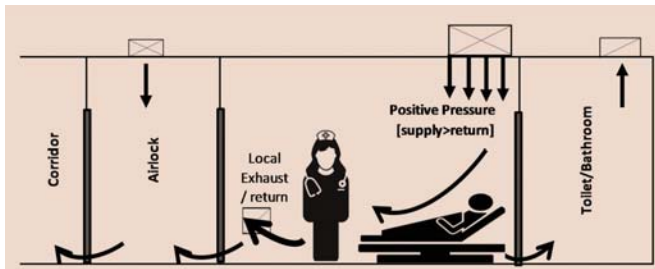

Figure 9: Air pattern for a positive pressure PE. Room
- In a Protective Environment Isolation (P.E.) room, the people in the outside corridor and the healthcare workers should not infect the patient, who is immuno-compromised or immuno-suppressed. The room is thus kept under positive pressure. The healthcare worker's respiration when attending to the patient should be directly exhausted. The air pattern shown in Figure 9 tries to achieve this. The clean air from the supply air duct comes first on the patient and thence to healthcare worker and then exhausted from the nearby exhaust grille.